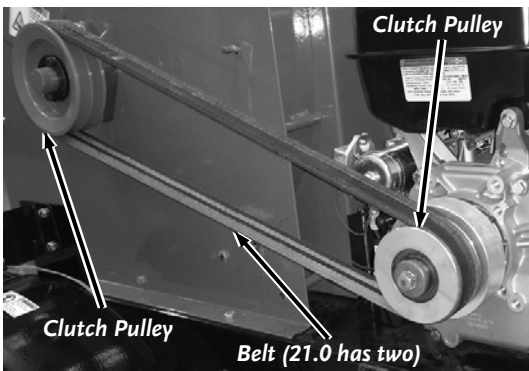

Figure 44
- Remove the Belt from the Clutch and Sheave (**Figure 44**).
- Use a 1/2" Wrench to adjust the Belt Tensioner until the Belt is not sagging but not too tight (**Figure 44**).